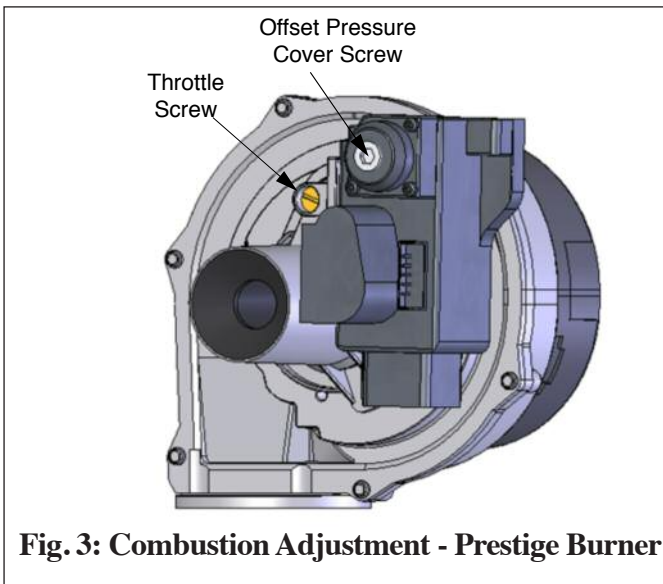

Fig. 3: Combustion Adjustment - Prestige Burner
2. If the combustion levels during high fire is outside the recommended combustion settings adjust the THROTTLE SCREW (see Fig. 3) using a flat-blade screwdriver as follows:
4. If the combustion levels (O₂ or CO₂) during low fire is not within +/- 0.2 of the combustion level measured at high fire, remove the offset cover screw and adjust the plastic OFFSET SCREW (see Fig 3) using a T-40 Torx wrench as follows:
6. If the combustion levels during high fire are outside the recommended combustion settings adjust the THROTTLE SCREW (see Fig. 3) using a flat-blade screwdriver as follows:
8. If the combustion level (O₂ or CO₂) during low fire is not within +/-0.2 of the combustion level measured at high fire. The offset cover screw and adjust the plastic OFFSET SCREW (see Fig. 3) using a T-40 Torx wrench as follows: